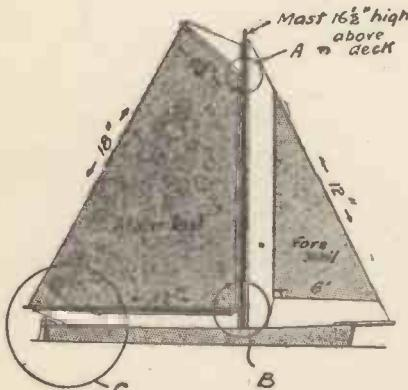

Fig. 5.—The Sail Plan.
**The Sails.**—These should be cut out of as fine a calico material as can be obtained, the cutting-out sizes being indicated on the sail plan, Fig. 5. The main-sail has a wooden "boom" at the bottom and a "gaff" at the top to which it is fixed by a hem, as illustrated in Figs. 1, 2, and 3. The rigging is fixed to the boom and gaff, the latter being carried from the mast by a gaff jaw made of bent hard-drawn brass wire.